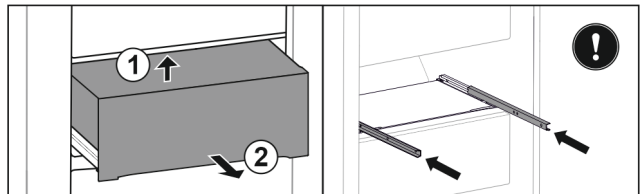

Fig. 148
- ▶ Lift drawer from below. Fig. 148 (1)
- ▶ Remove drawer to the front. Fig. 148 (2)